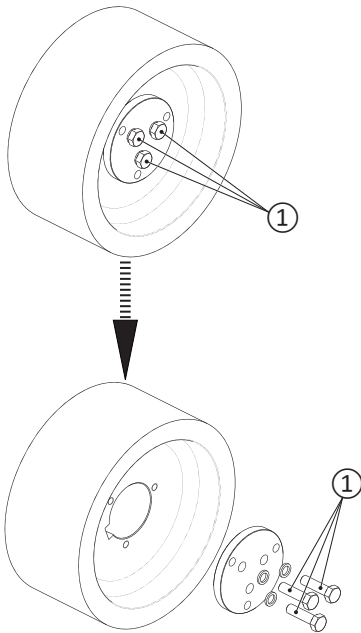
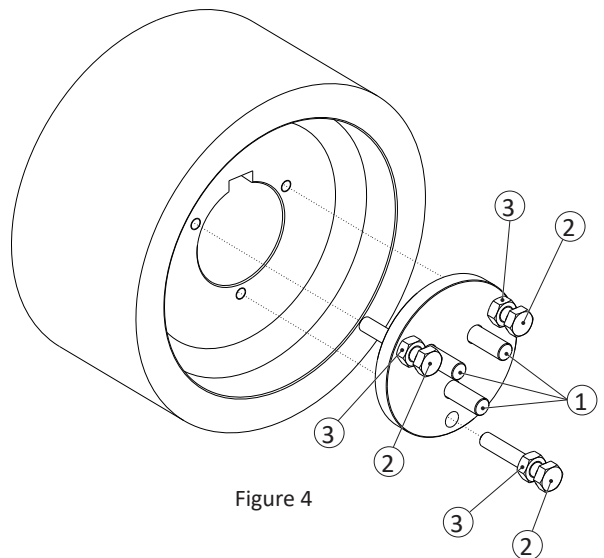

Figure 3
Figure 4
- Unscrew the retaining screws ① “Figure 3” and place them as shown in “Figure 4”.
- Tighten the nuts ③ on the screws ② and place them as shown in “Figure 4”.
- Tighten the ② screws by 15/20 mm in the threaded holes on the pulley.
- Remove the pulley by tightening in circular sequence the nuts ③, while holding the pulley screws ② firm.
- ① SCREWS M14x50
- ② SCREWS M12x60 (not included in the standard supply)
- ③ NUTS M12 (not included in the standard supply)